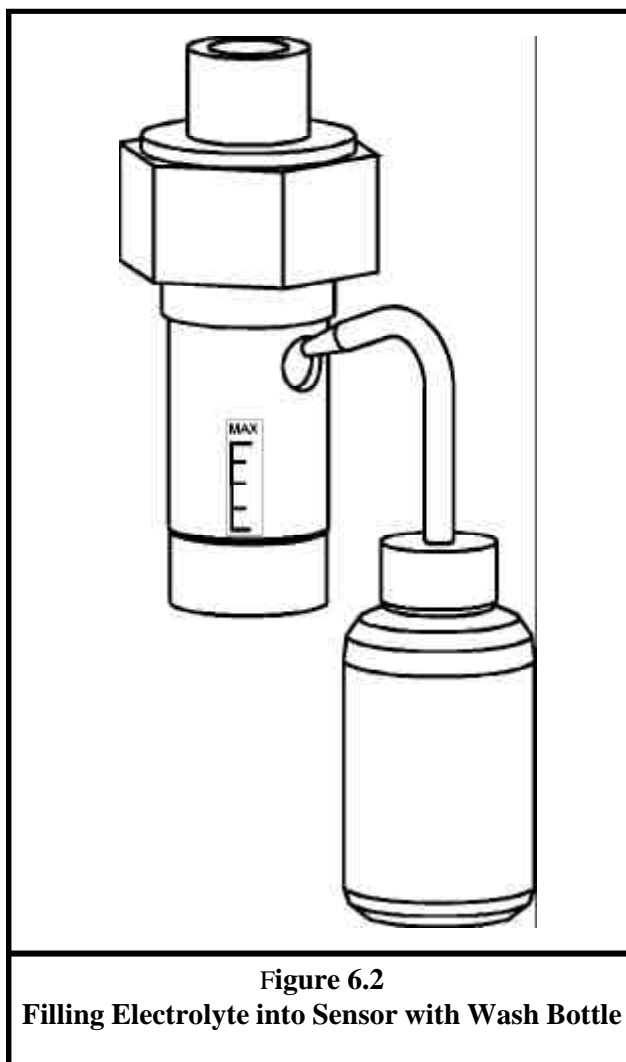

Figure 6.2
6.4 Electrolyte/Membrane Replacement (See Fig. 6.2)
- h. Transfer electrolyte from the plastic wash bottle into the electrolyte supply port (see Fig. 6.2) until the level is at the maximum level line on the side of the sensor body.